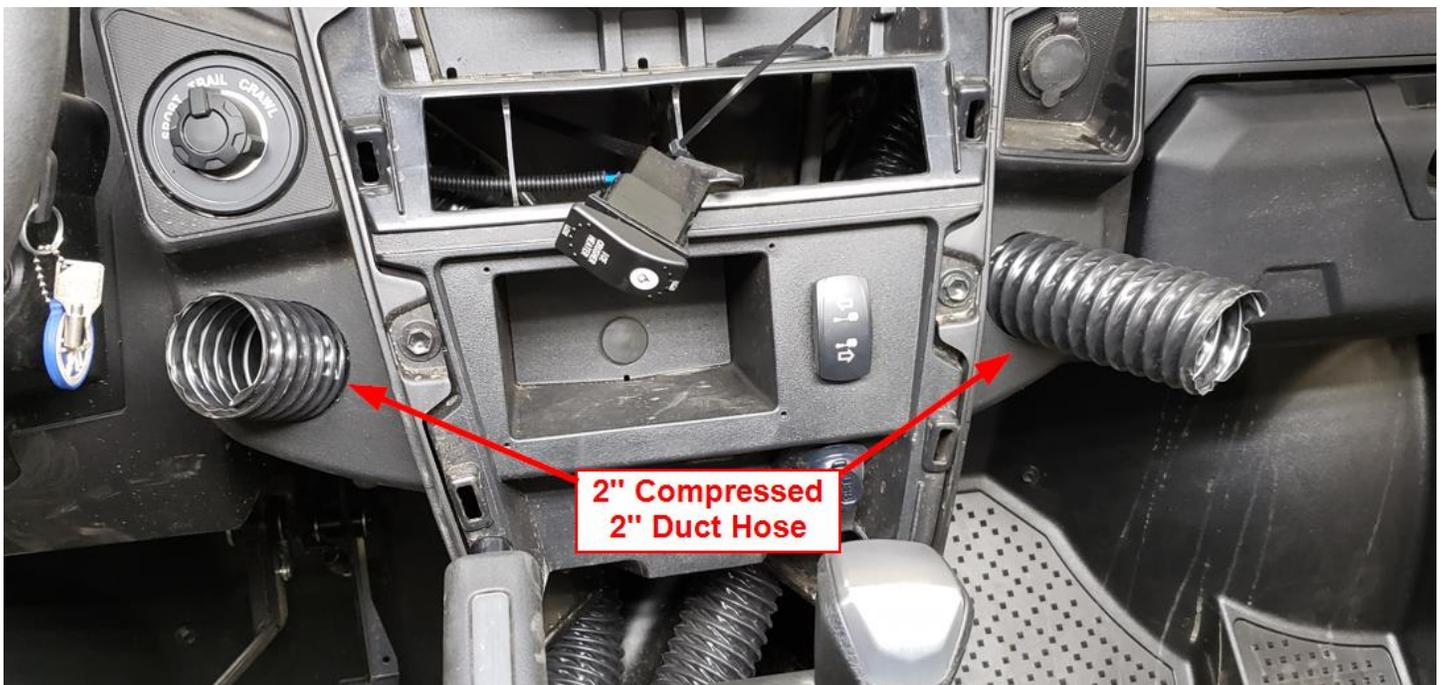

Figure 23
- f. Route the (2) 2” pieces of compressed duct hoses through the front dash openings on both driver and passenger sides as shown in Figure 23. Route the (2) 5” pieces of compressed duct hose through the defrost openings as shown in Figure 24.